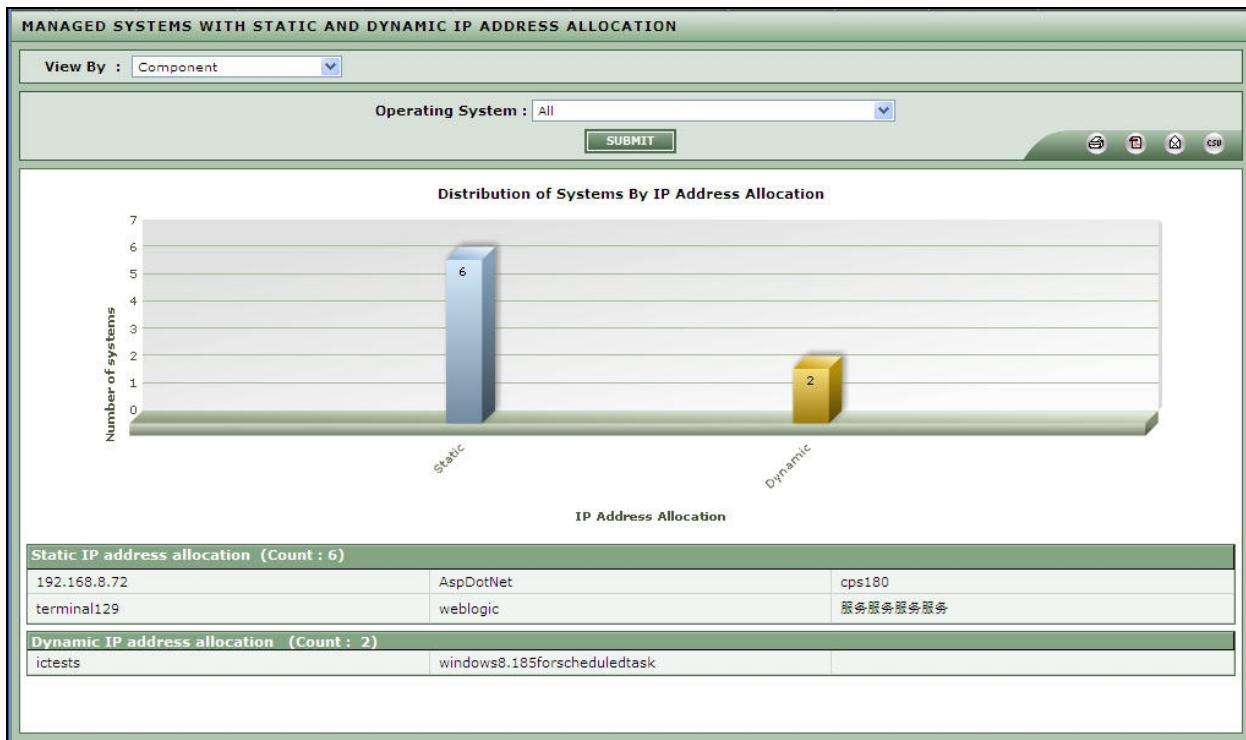

Figure 2.24: Distribution of systems by static & dynamic IP address across the operating systems
- Select **All** option from the **Operating System** list box as depicted in Figure 2.24. If your environment consists of multiple operating systems, then, the **All** option will be chosen here by default. If only a single operating system is in use in your environment, then the same will be selected here by default.